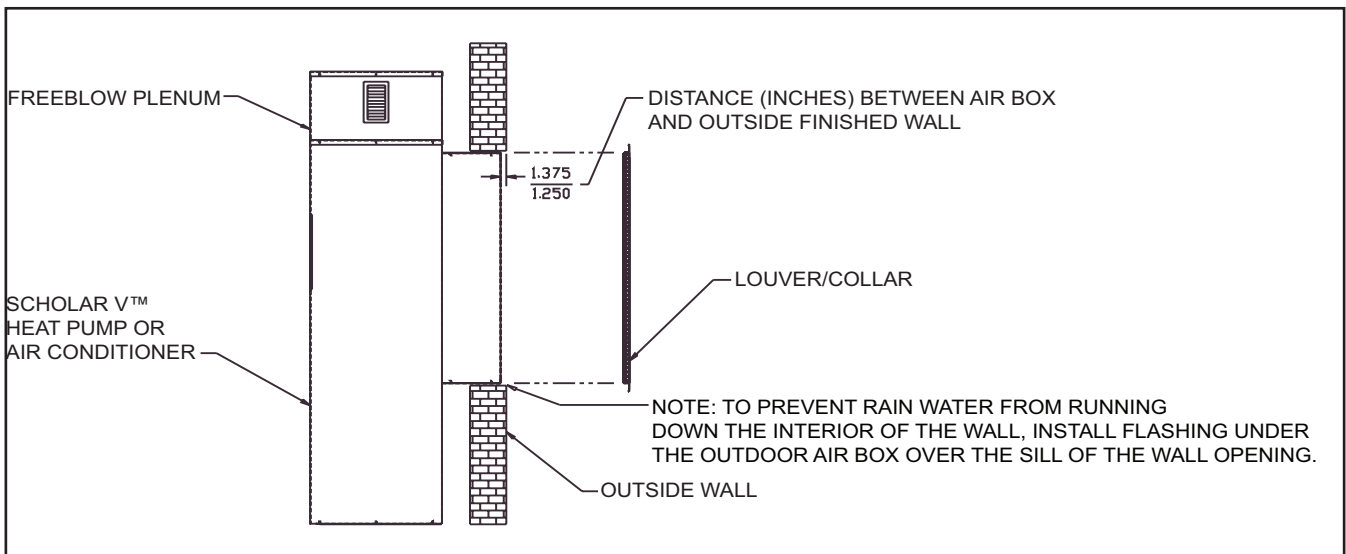

Figure 6. Dimension Between Scholar V Heat Pump or Air Conditioner Air Box and Finished Outside Wall for Outdoor Louver/Collar Assembly Installation
- A. Slide the Scholar V heat pump or air conditioner into the wall opening slowly, being careful to clear the appropriate stubouts. The heat pump or air conditioner, when installed properly, should have a clearance between the air box outside edge and the finished outside wall as shown in Figure 6. Proper fit up of the louver/collar assembly to the air box to the outside wall requires the noted recess dimension to be maintained after installing the unit.